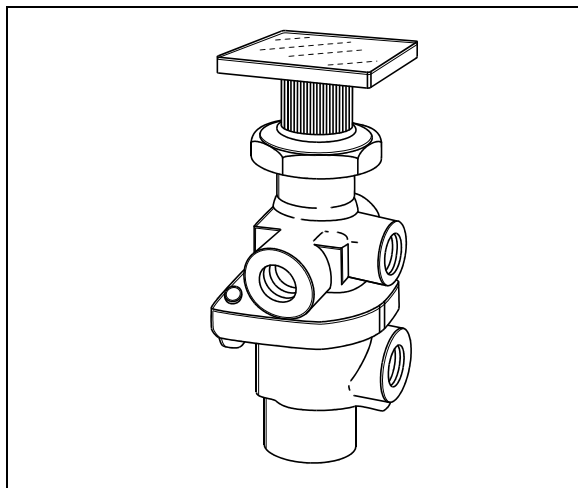

FIGURE 9: PP-1
2. Access this valve by tearing out the finishing panel, which holds the controls in place (Fig. 9).